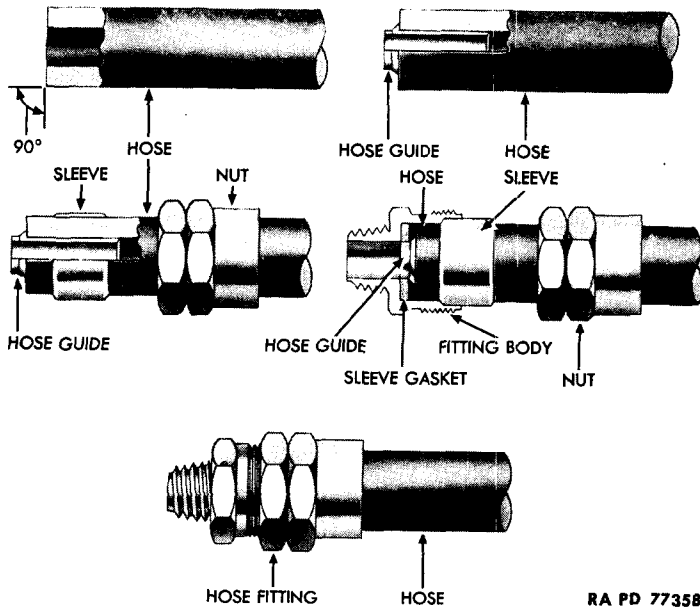

Figure 73 — Hose and Fitting Installations
(2) **HOSE** (fig. 73). Cut new hose same length as hose to be replaced. Screw hose guide into end of hose, and slide spring (if used) and nut on end of hose. Install sleeve on end of hose, position sleeve gasket in fitting body, and screw nut to body. Repeat process to install other end of hose.